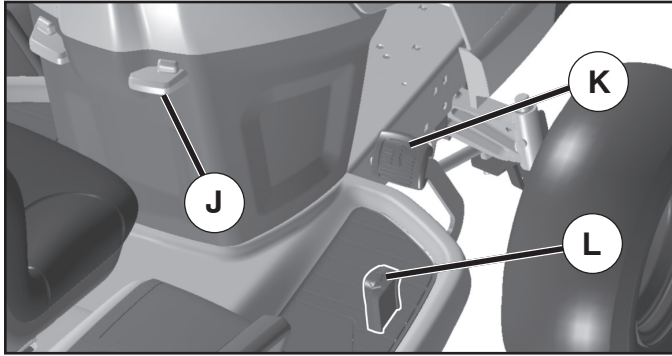

Fig. 7
(See Fig. 7)
- Slowly depress forward (K) or reverse (L) drive pedal to begin movement. Ground speed increases the further down the pedal is depressed.
TO USE CRUISE CONTROL (J) (See Fig. 7)